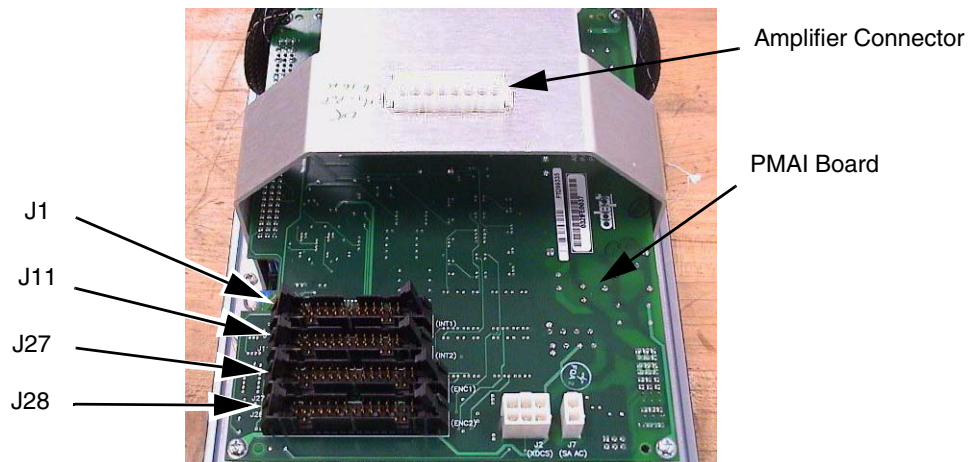

Figure 5-4. Connectors on AIB Chassis
9. Disconnect the “white” amplifier cable from the amplifier connector located on the chassis bracket. See Figure 5-4.